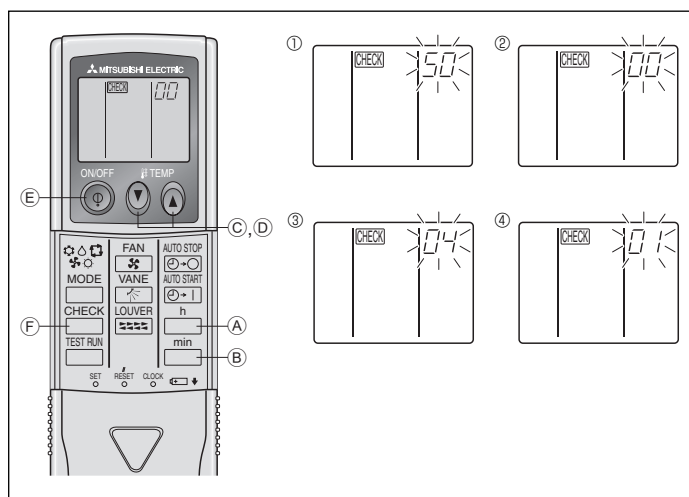

Fig. 6-10
- Press the MODE button (E) and mode and the setting number (I) and (II) will change to be on constantly and the contents of the setting can be confirmed.
- Press the FILTER (A) and TEST RUN (B) buttons simultaneously for at least two seconds. The function selection screen will disappear momentarily and the air conditioner OFF display will appear.
2) For IR wireless remote controller (Fig. 6-10)